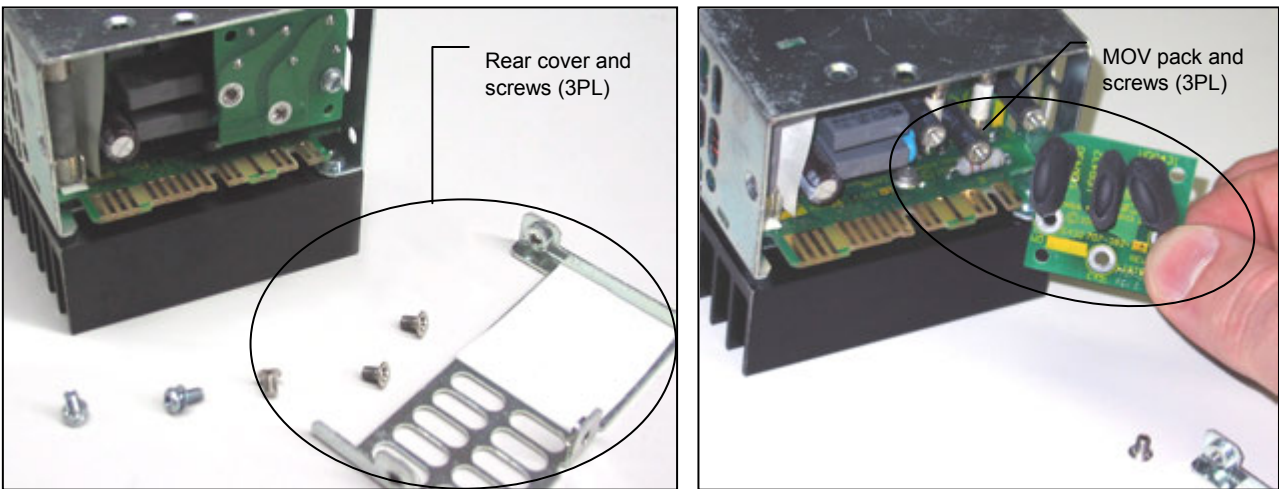

Figure 9–Showing MOV removal and replacement
3. Turn the module around to face the back of the unit and remove the three (3) screws securing the rear grill/cover. Remove the rear cover. See Figure 9: